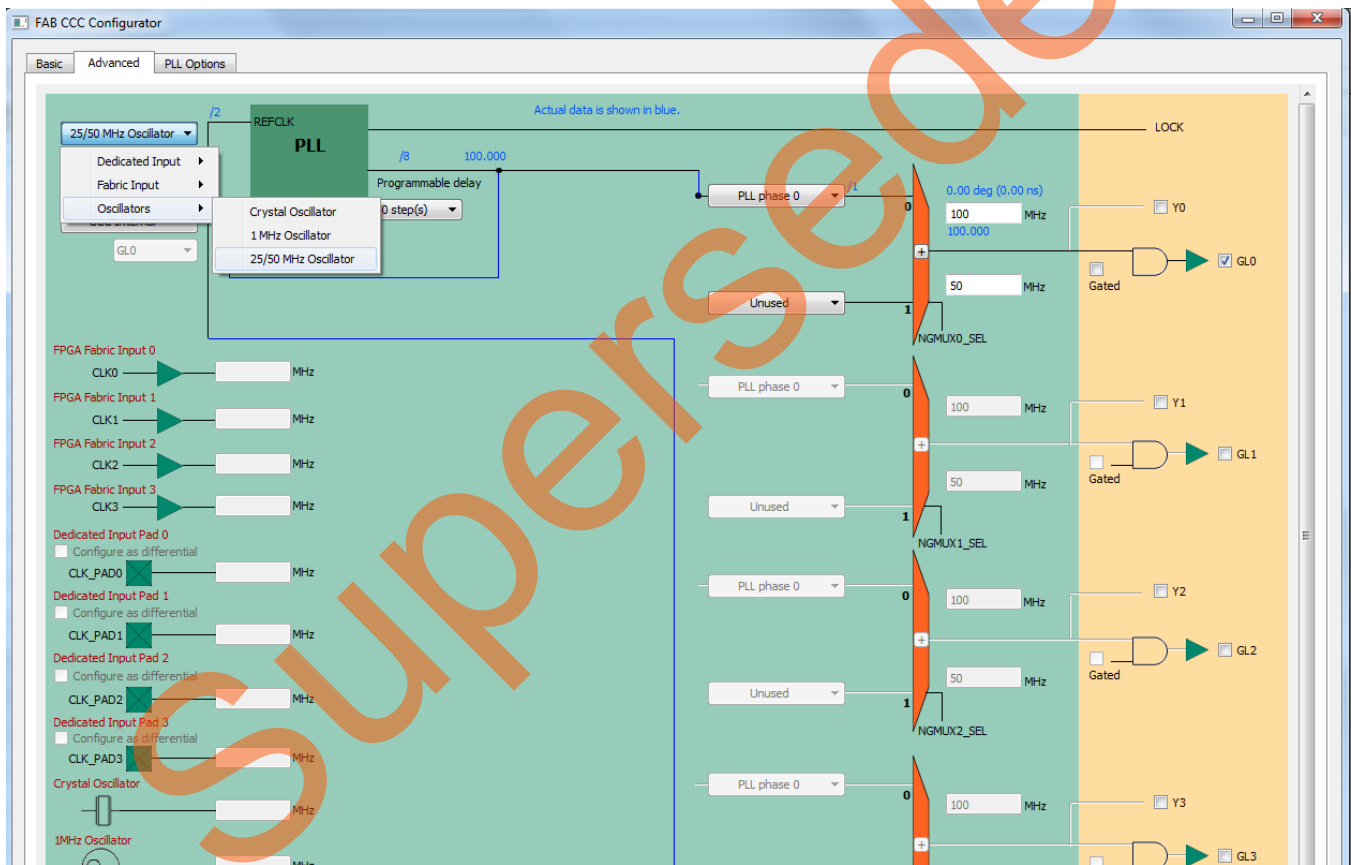

Figure 19. Selecting Clock Source
- Select the clock source as **Oscillators > 25/50 MHz Oscillator**, as shown in Figure 19.